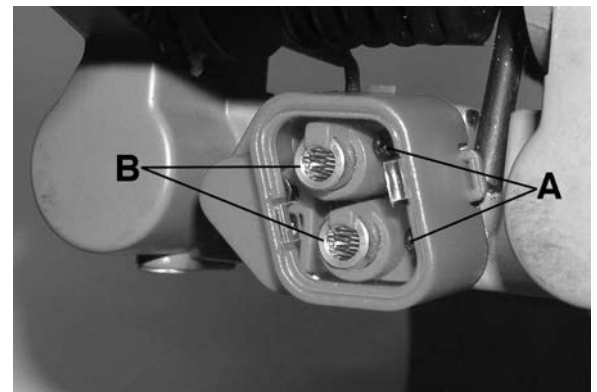

FIGURE 15
2. Loosen pan head screws (A) Fig.15 next to each laser guide (B).
4. Turn both laser tips (B) until the laser beams are perfectly aligned with both sides of the blade kerf, once aligned, hold laser tip and retighten pan head screw (A) to prevent the laser dial from moving. Repeat for the second laser tip.